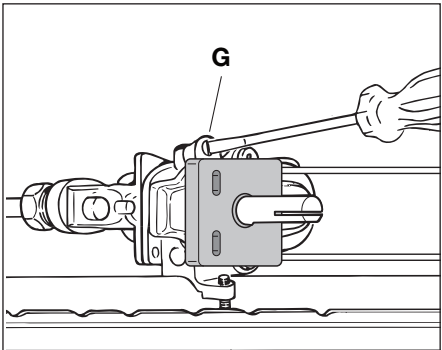

Fig. 3.16
- remove the knob and by a thin screw-driver (3 mm section - 100 mm long) unscrew of about a half turn the screw by-pass **G**, passing through the front panel hole (fig. 3.16)